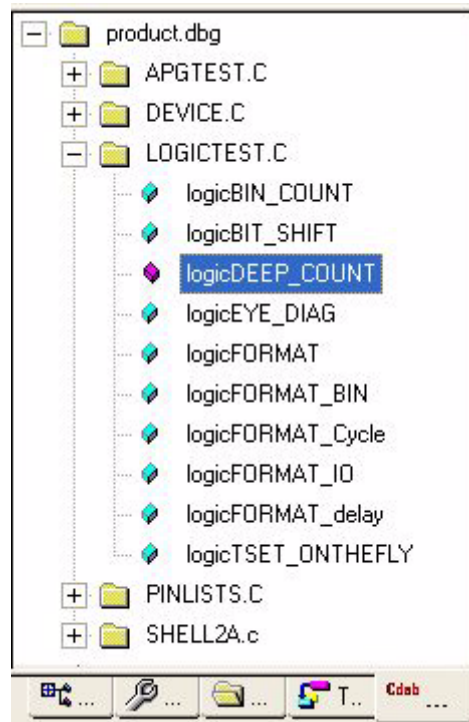

Figure 6-56. C Debugger Cdeb Tab
- 6 Selecting the Cdeb **Cdeb** tab in the Navigator pane displays its tab that lists all the source code file names and function names for the loaded test program (similar to Figure 6-56).